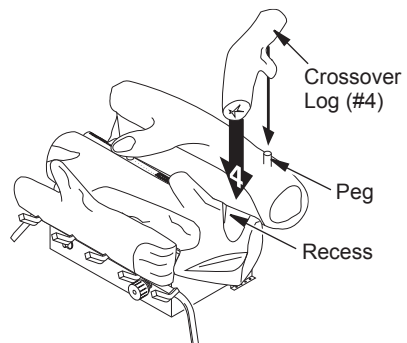

Figure 32 - Installing Crossover Log (#4)
4. Place crossover log (#4) onto the pin (right) on back log (#2) and into the recess of the middle log (#1) (see Figure 32).